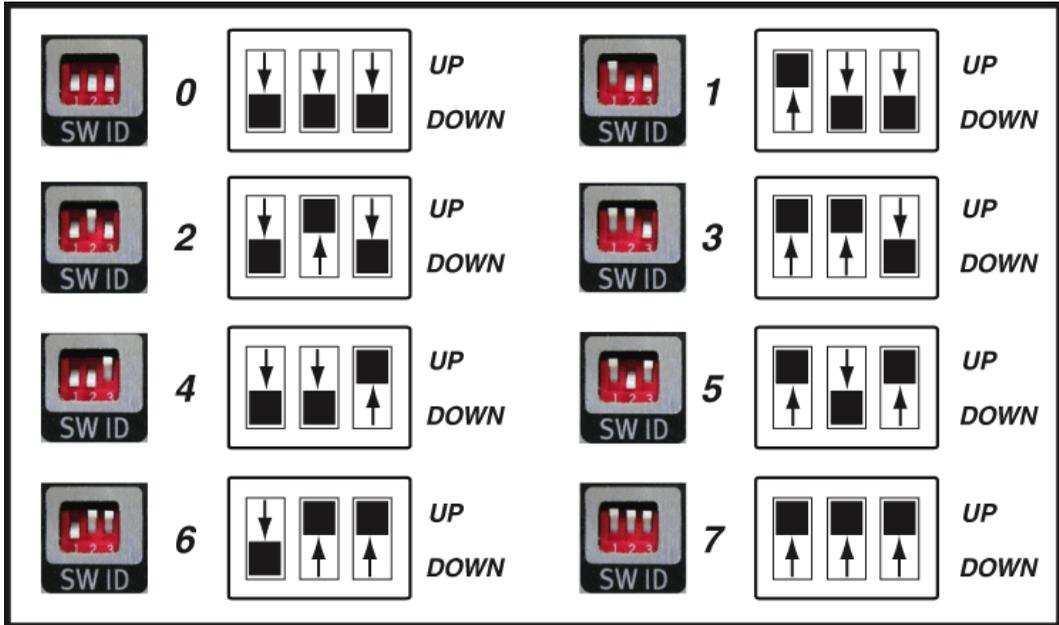

Figure 7 ISS-5116 DIP Switch
- 2 Select and record the **DIP switch position** (Figure 7 and Table 6) to be assigned to the ISS-5116.